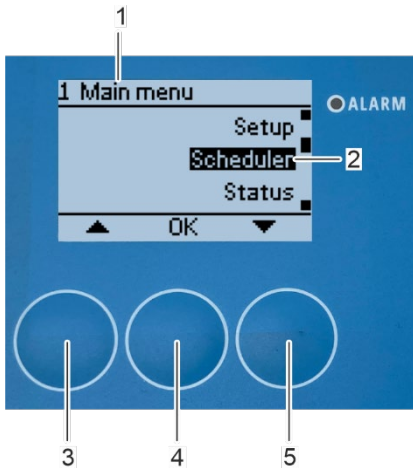

Fig. 152: Open "Scheduler" submenu
1. Select the "Scheduler" submenu (Fig. 152/2) in "1 Main menu" menu (Fig. 152/1) with the arrow keys [up] (Fig. 152/3) and [down] (Fig. 152/5).
2. Confirm the selection with [OK] (Fig. 152/4).